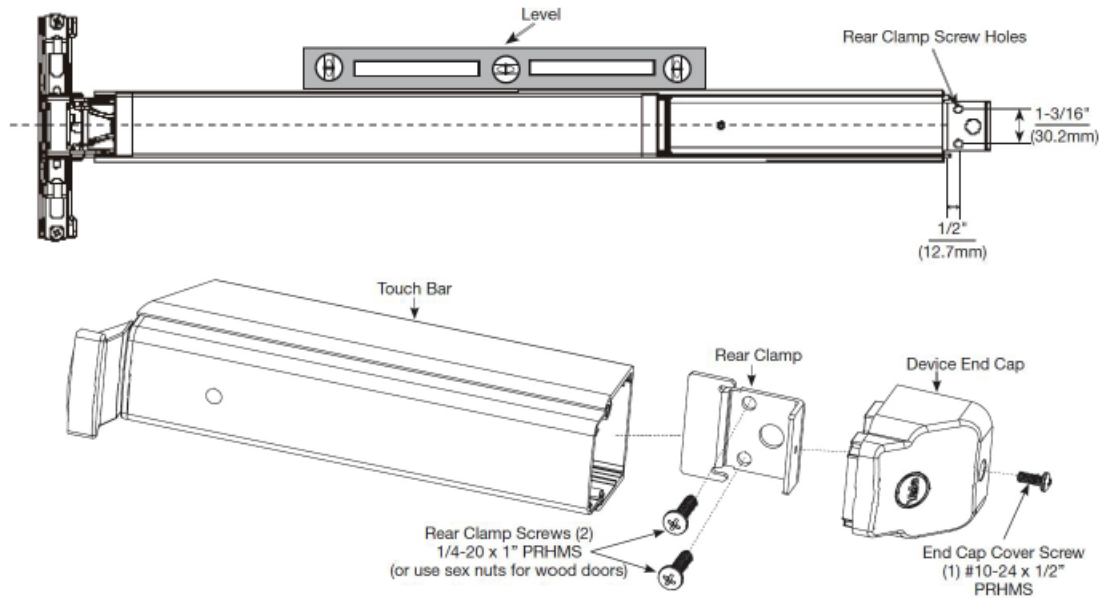

Figure 15
1. With the device leveled, insert rear clamp, locate rear clamp holes and mark. Ensure rear clamp is pushed flush against device (See Figures 15 & 16 on page 13).
2. Using the rear clamp as a template, mark and drill holes for two (2) 1/4-20" screws.
4. Slide end cap in place and secure with one (1) #10-24 x 1/2" (12.7mm) PRHMS.